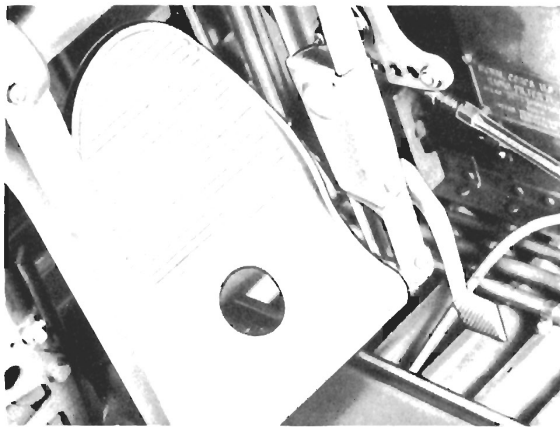

Figure 7—Rudder Pedal and Adjustment Lever
(4) **RUDDER CONTROL.**—Conventional pedals, hinged from the top, are equipped with conventional toe brakes. Each rudder pedal may be adjusted to desirable length by first pushing outboard on the spring-loaded adjustment lock (figure 7) which will permit the rudder pedal to float free on its hinge. After moving pedal to desired location, release the lock and "jiggle" the pedal slightly to allow the locking pin to snap into position. *Always adjust both pedals to the same length.*